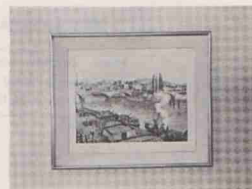

Figure 6
■ Consider the background against which the picture will be seen. Plain walls are best because the design in the picture is seen clearly. It is difficult to hang pictures on patterned walls—the designs of the picture and wall tend to run together. Patterned walls must have either a wide mat around the picture or a very wide frame (Fig. 6).